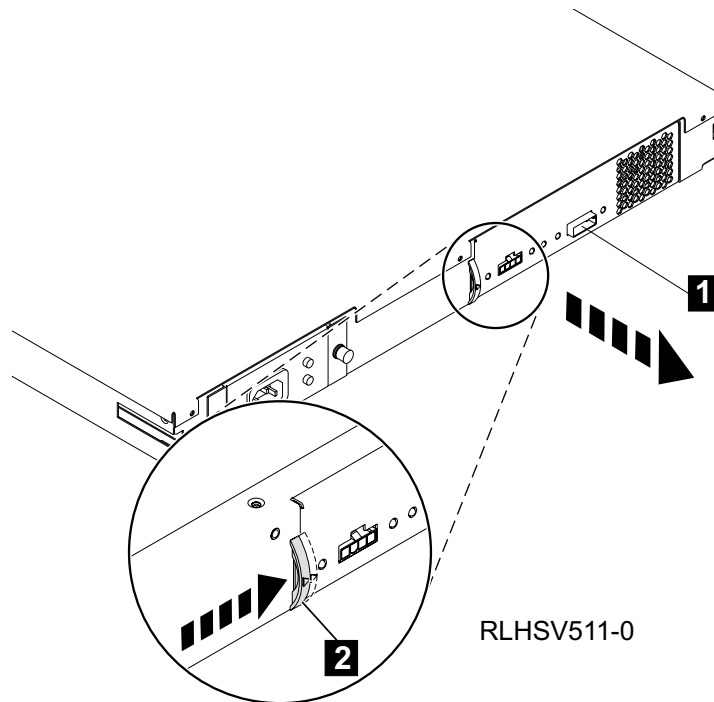

Figure 8. Removing the Electronic Tray Assembly
- f. Push the latch (see **2** in Figure 8) towards the electronic tray assembly.